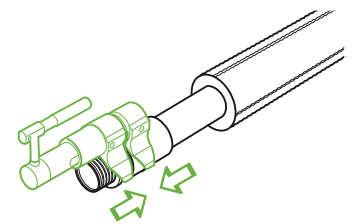

Fig. B10.3.6
9. Using the pump, press the outer sleeve until it is snug with the inner coupler (Fig. B10.3.6). During the pressing process, please ensure that the inner coupler is firmly located inside the pipe without displacement.